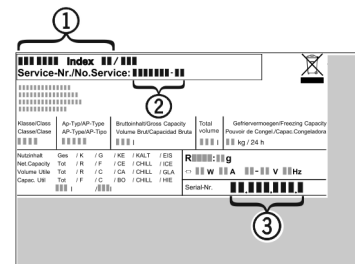

Fig. 11
- ▶ Read the appliance designation *Fig. 11 (1)*, service No. *Fig. 11 (2)* and serial No. *Fig. 11 (3)* off the model plate located inside the appliance on the left-hand side.
- ▶ Notify the customer service, specifying the fault, appliance designation *Fig. 11 (1)*, service No. *Fig. 11 (2)* and serial No. *Fig. 11 (3)*.